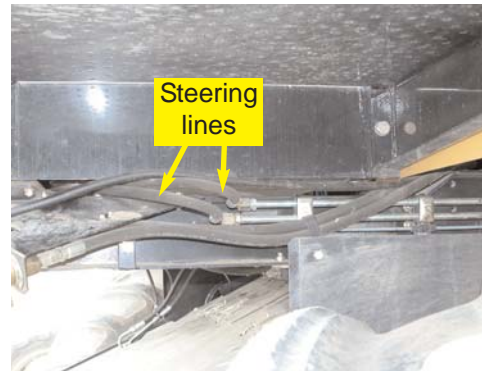

Figure 6a. Steering output location.
- a. Locate the steering lines under the entry platform on the left side of the combine. (Figure 6a.)